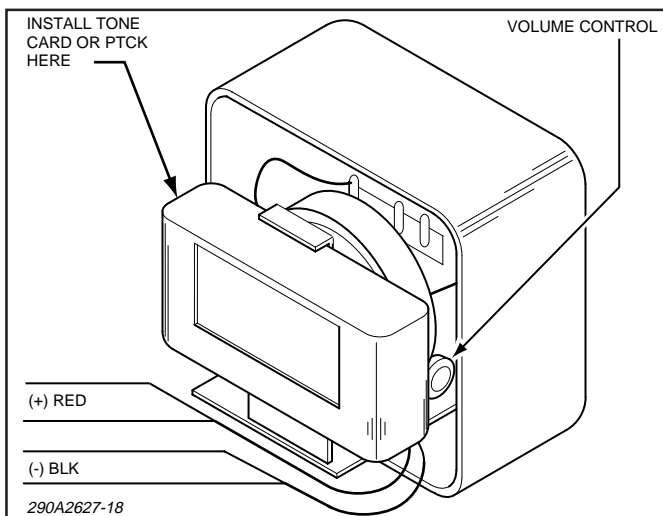

Figure 2. Tone/Connector Card Installation and Volume Control Location.
b. Plug the desired tone card into the socket as shown in figure 2.
b. Plug the desired PTCK connector card (purchased separately) into the socket as shown in figure 2.
A. After installation is complete, be sure to test the system to verify that each amplified speaker and optional strobe light operates satisfactorily. If it is found that the unit is too loud for its location, an internal volume control can be adjusted. Remove the device from the electrical box and turn the volume control (see figure 2) to the desired loudness.